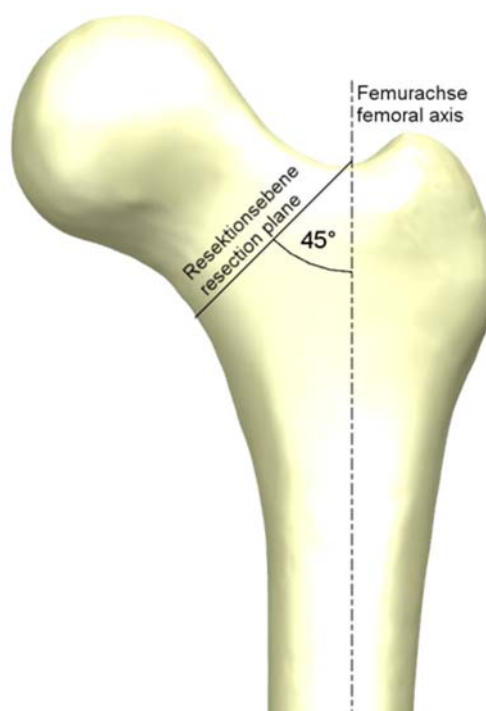

Figure 3: Resection of the femoral head
- After opening the joint capsule and dislocating the femoral head from the cup, the femoral head is resected as determined in the preoperative planning (Figure 3).